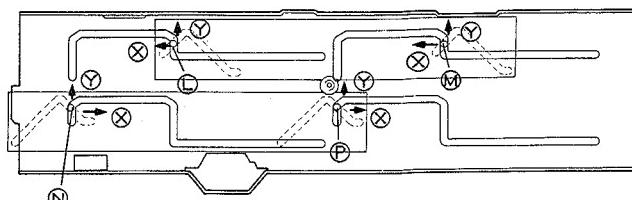

Fig. 10-8.
- When rack U and rack L move in the directions of the arrows ② and ① respectively, the force dispersed in the  $\otimes$  direction and the  $\circlearrowleft$  direction shown in Fig. 10-8 acts on slide angle shafts ⑪, ⑫, ⑬, and ⑭. However, because it is impossible to move forward in the  $\otimes$  direction, there is only movement in the  $\circlearrowleft$  direction (upwards) and shafts ⑪, ⑫, ⑬, and ⑭ rise while climbing the inclined sections of the grooves.